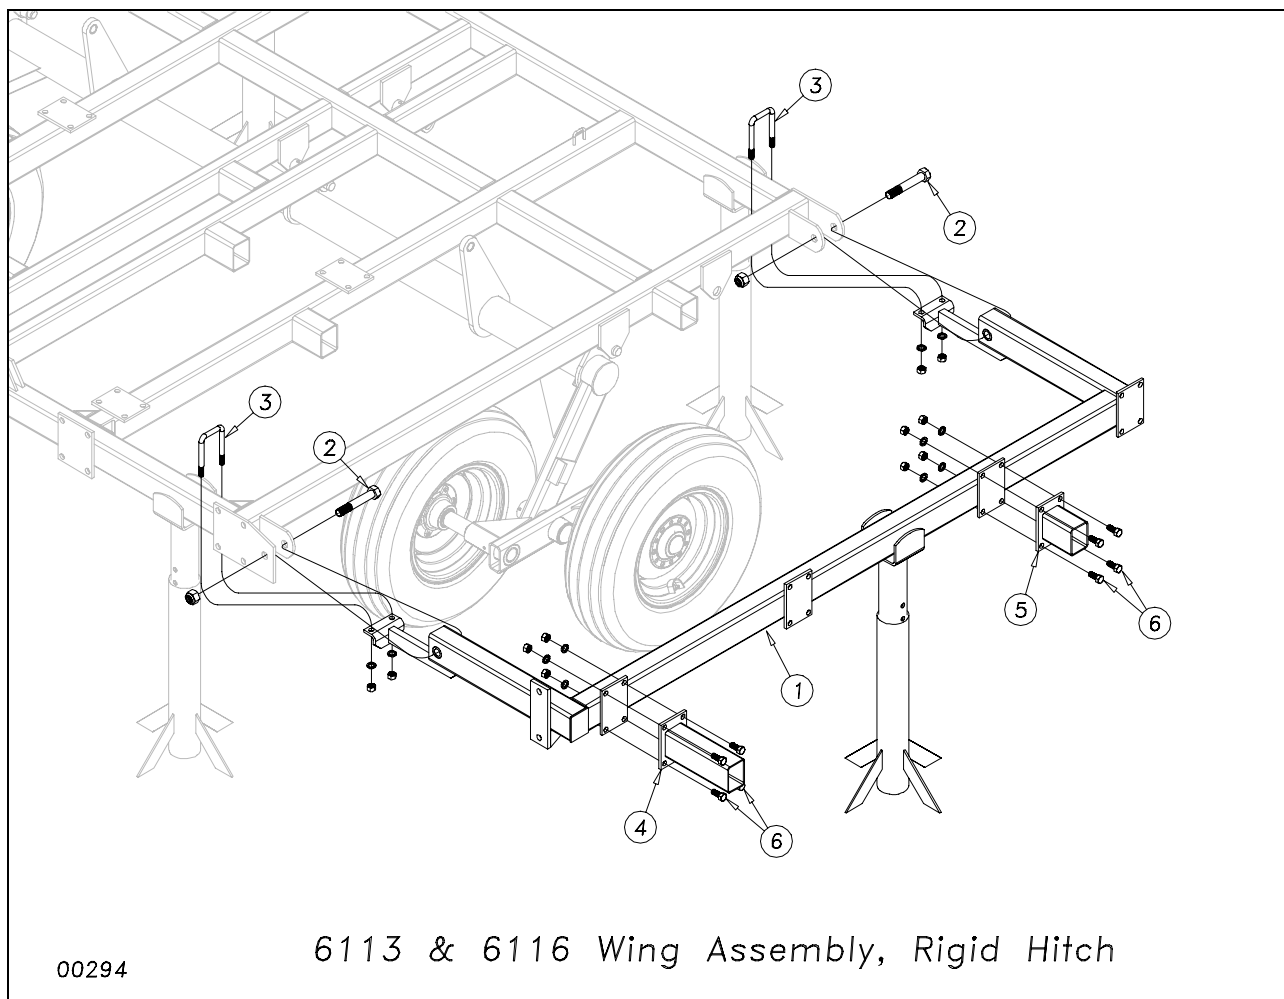

Figure 2
Bolt the wing frame (1), Figure 2, to the center frame with two 1 x 6 hex bolts (2) with nylon lock nuts. Install the 5/8 x 3 x 5 1/2 u-bolts (3) to secure the wing frame rigid. Use lock washers and hex nuts. On model